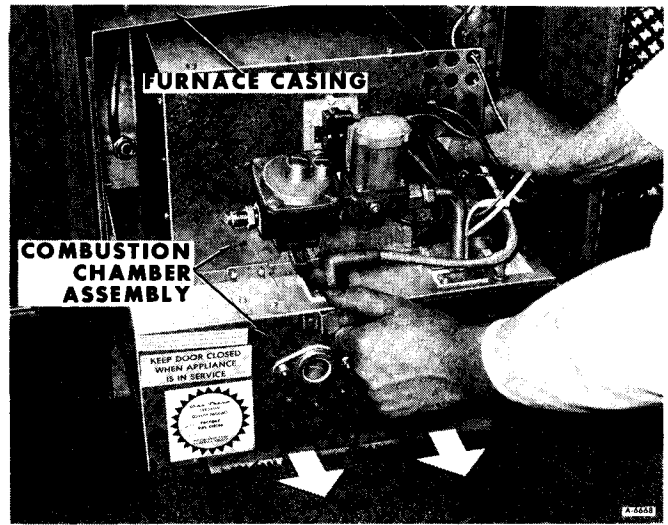

Figure 9—Removing Combustion Chamber Assembly
8. Carefully pull combustion chamber assembly out of furnace casing (figure 9). Remove from vehicle.